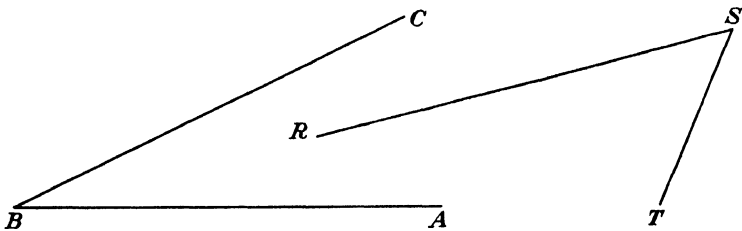

Fig. 102.
1. Measure the angles in Fig. 102.